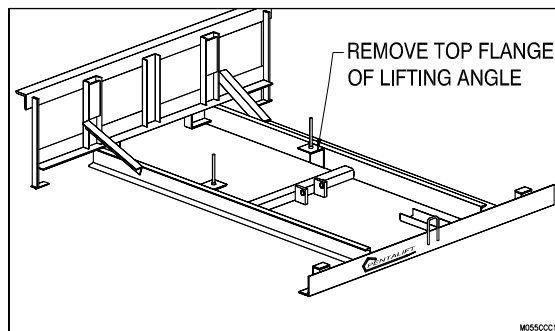

Figure 17: Top Flange Removal Diagram
20. Once the leveler has been fully installed, remove the top flange of the lifting angle to allow clearance for the Hold Down Release Bar. (See Figure 17: Top Flange Removal Diagram on page 12)